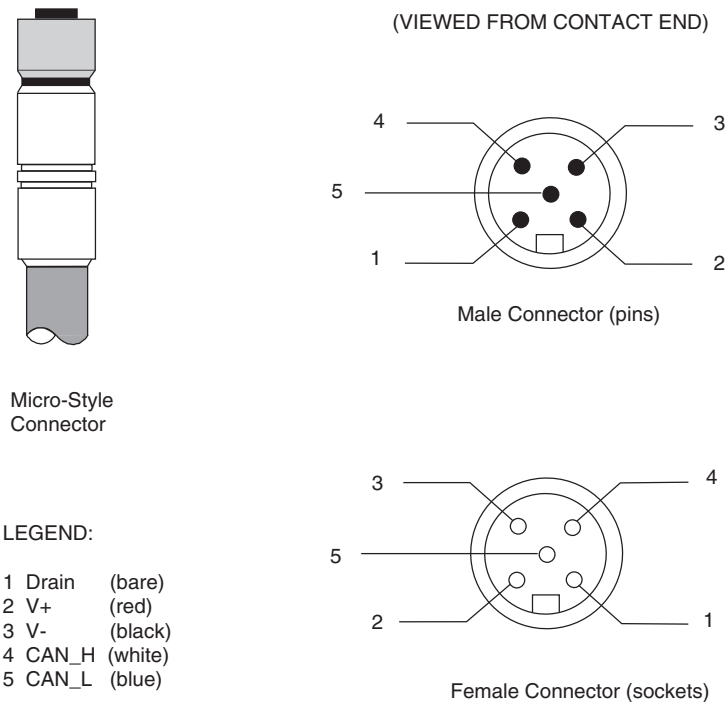

Figure 6-15. Micro-Style Connector Pinouts for DeviceNet
- Female micro-style 12 mm thread DIN connector for joint 2 of the robot (see Figure 6-5 and Figure 6-15).